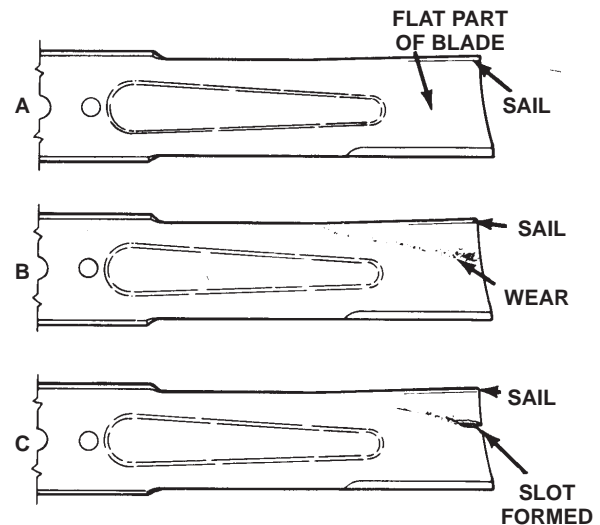

Figure 30
2. Examine the cutting ends of the blade carefully, especially where the flat and curved parts of the blade meet (Fig. 30-A). Since sand and abrasive material can wear away the metal that connects the flat and curved parts of the blade, check the blade before using the machine. If wear is noticed (Fig. 30-B), replace the blade; refer to Removing the Cutting Blade, page 19.
If the blade is allowed to wear, a slot will form between the sail and flat part of the blade (Fig. 30-C). Eventually, a piece of the blade may break off and be thrown from under the housing, possibly resulting in serious injury to yourself or bystanders.